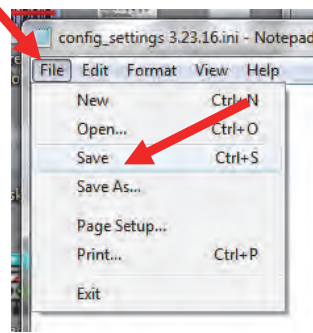

Figure 2
4. Click on File and Save or Save the modified file on a blank USB drive that is formatted with FAT32 (see Figure 2).